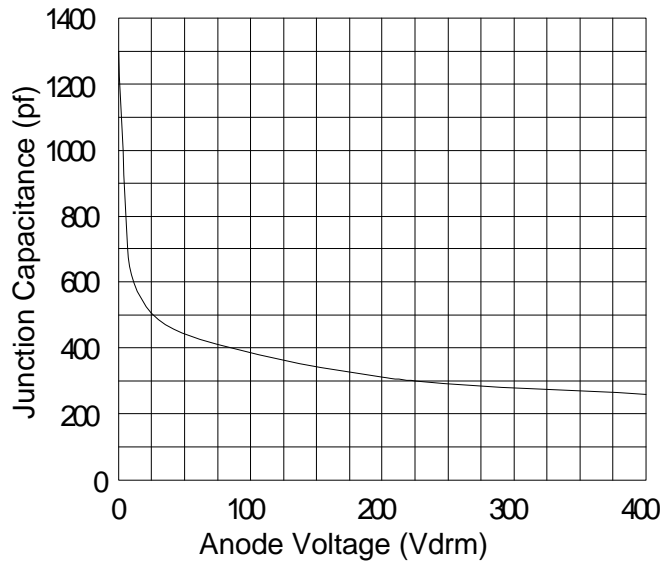
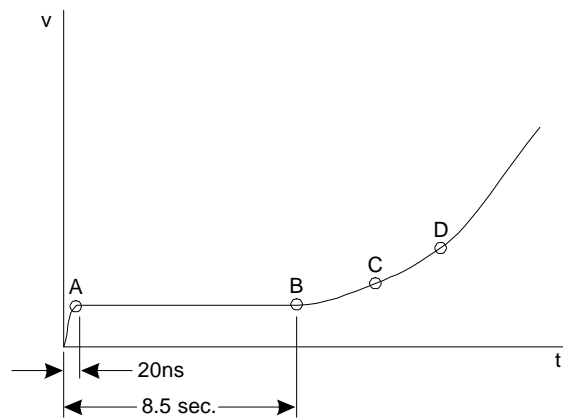

Fig. 5.1
Fig. 5.3
Inspection of Figure 5.1 on page 34 shows that capacitance rapidly decreases to a relatively low, and approximately constant, value as the voltage increases. This curve represents test data taken on a commercially available SCR with a junction diameter of approximately 16mm and a V_{DRM}
A complex relationship exists between AC "leakage" current and junction capacitance. Junction capacitance varies with voltage and is maximum when the voltage is zero. However, this capacitance decreases rapidly as the voltage increases. Examination of Figure 5.1 reveals that approximately two-thirds of the total change in junction capacitance occurs while the voltage increases from "0" to 16 volts.
Since Figure 5.1 represents data taken from an SCR with a junction area much smaller than many of the "hockey puck" units currently in use, a maximum junction capacitance of 0.3 μ f (at 0 volts) will be used to illustrate the principles of AC vs DC leakage currents. Assuming that the "capacitance vs voltage" graph for a unit with a maximum junction capacitance of 0.3 μ f has the same general shape as Figure 5.1, we can arrive at an "average capacitance of 0.219 μ f.
The key to understanding why leakage currents are much lower using the PST Semiconductor Analyzer than those obtained with standard industry test procedures can be seen by examining Figure 5.3 and comparing it with the information presented in the previous section.
When the “High Voltage Test” button is initially pressed, the output voltage at the “High voltage” jacks increases from “0” to “16” volts in approximately 20ns (as shown in Figure 5.3). this gives a de/dt value of 800 million volts per second, which is approximately 1000 times greater than the de/dt calculated for the sine wave defined in Equation (4). This means that the junction capacitance is charged very rapidly at the same time its value is rapidly decreasing, as shown in Figure 5.1.
Continuing to press the button causes the output voltage to gradually rise towards the breakover voltage of the semiconductor, as shown at points “C” and “D” in Figure 5.3. The de/dt of this rising voltage is so low that very little junction capacitance “charging current” flows and the displayed current is, for all practical purposes, a true DC “leakage” current.
In Figure 5.1 it can be seen that junction capacitance decreases from 1300pf at “0” volts to 550pf at 16v. In other words, the capacitance at 16v is only 42% of the “0” volt capacitance. Furthermore, the capacitance at rated voltage is only 23% of the capacitance at “0” volts.
Using these assumptions, we determine the capacitance at 16v to be $0.126\mu f$ and at 2000v it would be $0.05\mu f$. Referring to Figure 5.3, we see that the voltage begins to rise again at point “B”. The rate of rise for the first 2 seconds after point “B” is approximately 14v/sec. And the average capacitance would be approximately $0.103\mu f$.
It can be seen from Figure 5.3 that de/dt increases as the output voltage increases and is approximately $232\text{v}/\text{sec}$. At 2000v . However, junction capacitance decreases as voltage increases and would be approximately $0.057\mu\text{f}$ at 2000v . Thus, the instantaneous current flow due to de/dt considerations would be approximately $13\mu\text{a}$ at 2000v . DC leakage currents at the junction breakover voltage are usually several hundred microamps and $13\mu\text{a}$ would not be a significant factor in determining the breakover voltage.